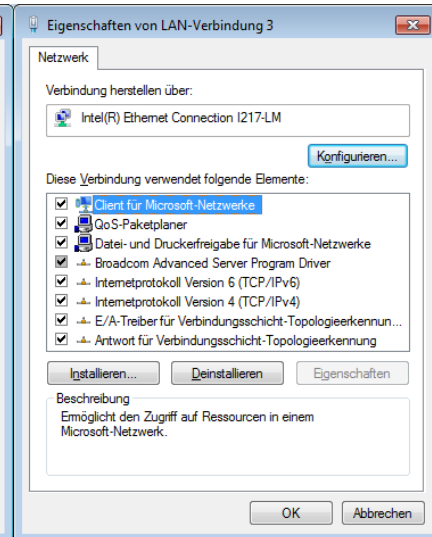

Figure 2
- With a < double click > on Internet Protocol (figure 2) the function is activated.